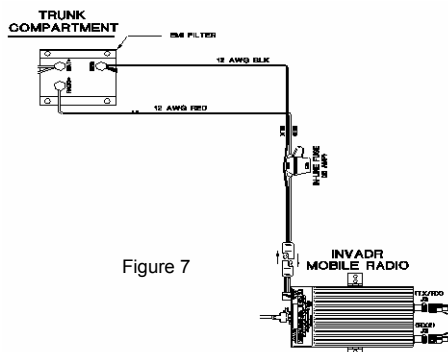

Figure 7
Step 2 Route and wire the power cable extension red wire (#12 AWG), via the 15 AMP in-line fuse, to the radio (+) terminal connection on the EMI Filter (see Fig. 7).